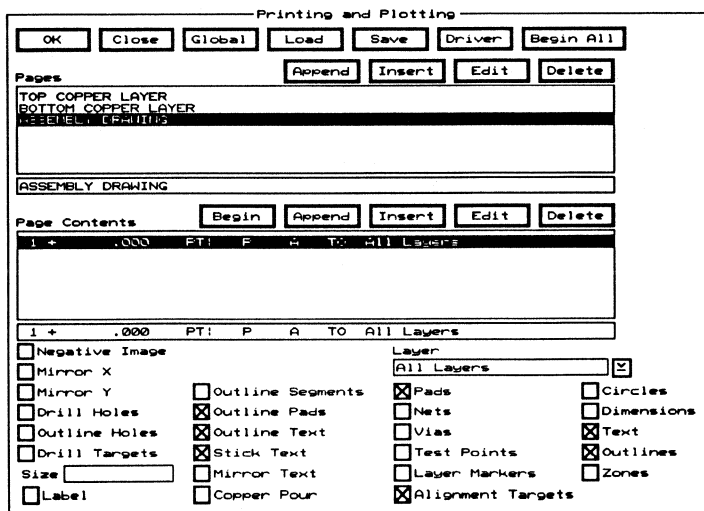

Figure 9-4. The configured printer pages.
7. Select **Append** for **Pages** to add **ASSEMBLY DRAWING** to the bottom of the list of items in the **Pages** list box. The three pages are configured, as shown in figure 9-4.